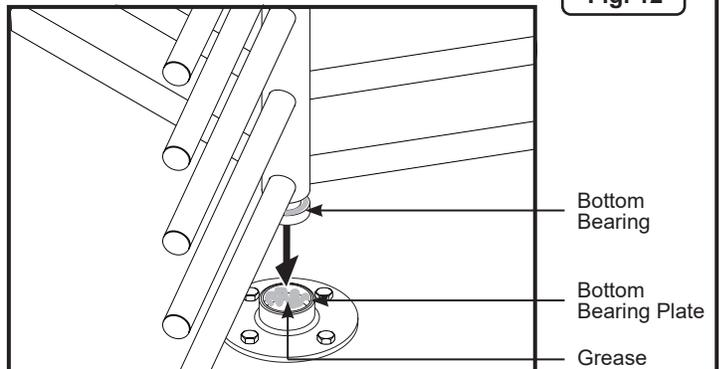

Fig. 12
2. Apply grease, as instructed in the note above. Lower the Roto, bottom bearing first, into the bottom bearing plate (Figure 12). Wipe away any excess grease.